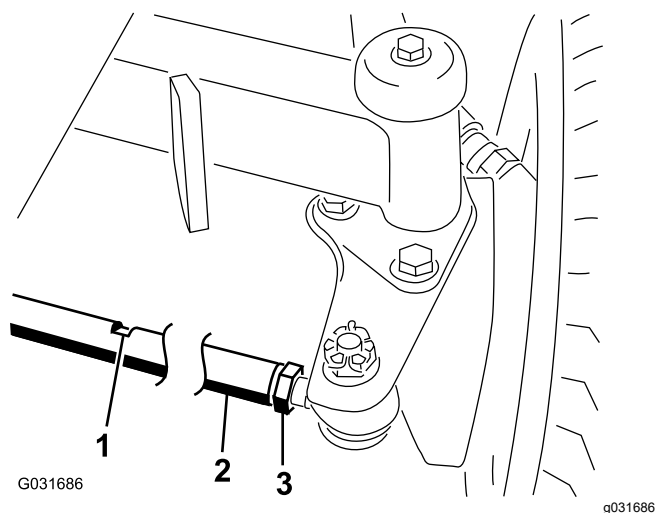

Figure 50
2. Loosen the jam nut on each end of the tie rod (Figure 50).